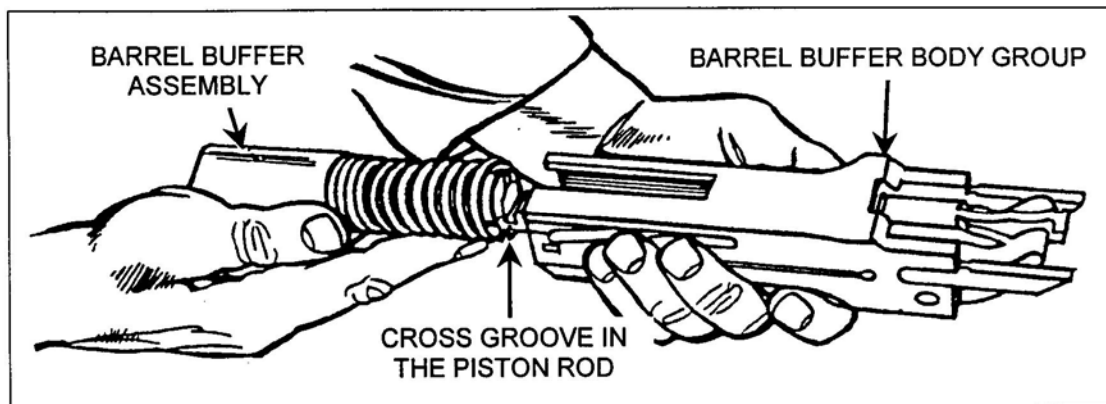

Figure 18. Removal of the barrel buffer assembly.
- (3) Disassemble the barrel buffer assembly.
- (a) Remove the buffer assembly by pushing it out the rear of the body of the barrel buffer (Figure 18).